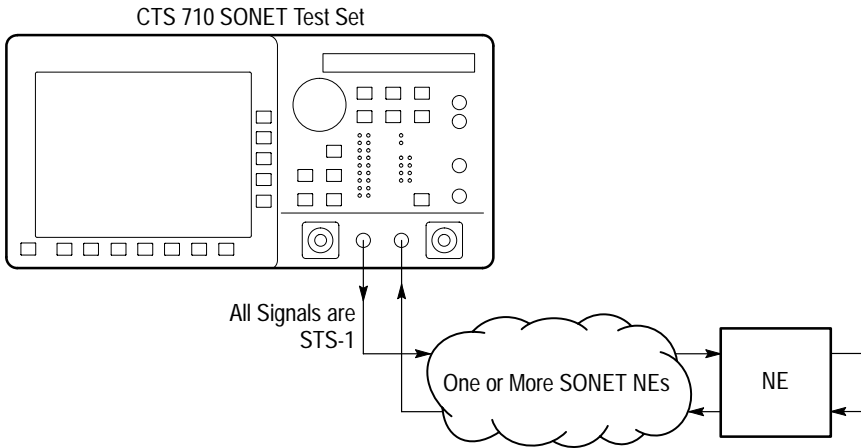

Figure 3–2: Setup to Check a Transmission Link
1. Connect the CTS 710 to a network as shown in Figure 3–2.